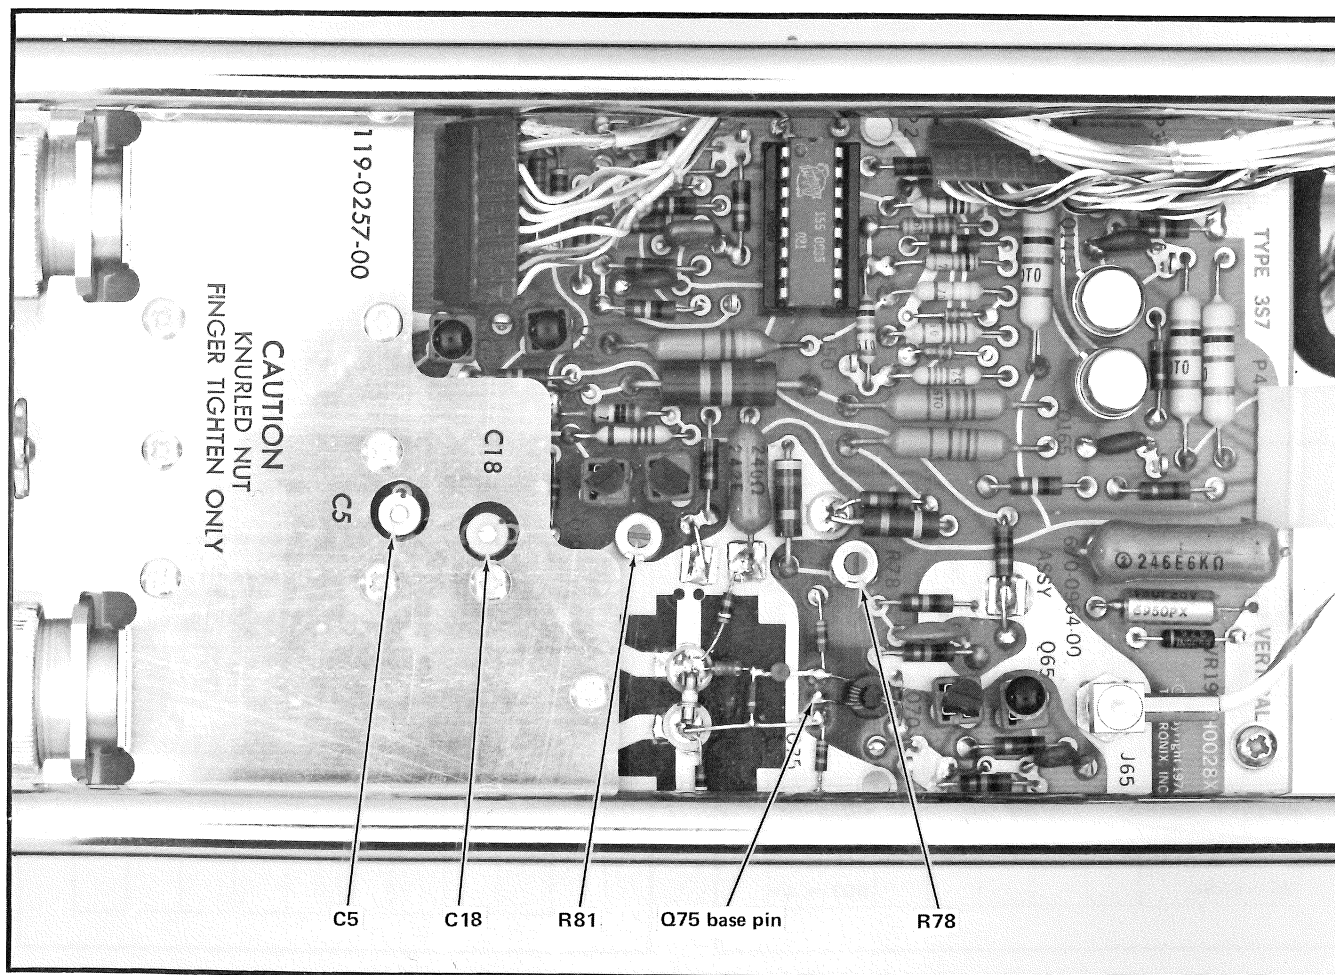

Fig. 6-11. 3S7 TDR Sampler calibration controls locations.
g. Touch the probe tip to Q75 base (center pin). See Fig. 6-11 for Q75 location. Q75 is mounted on the back side of the circuit board.